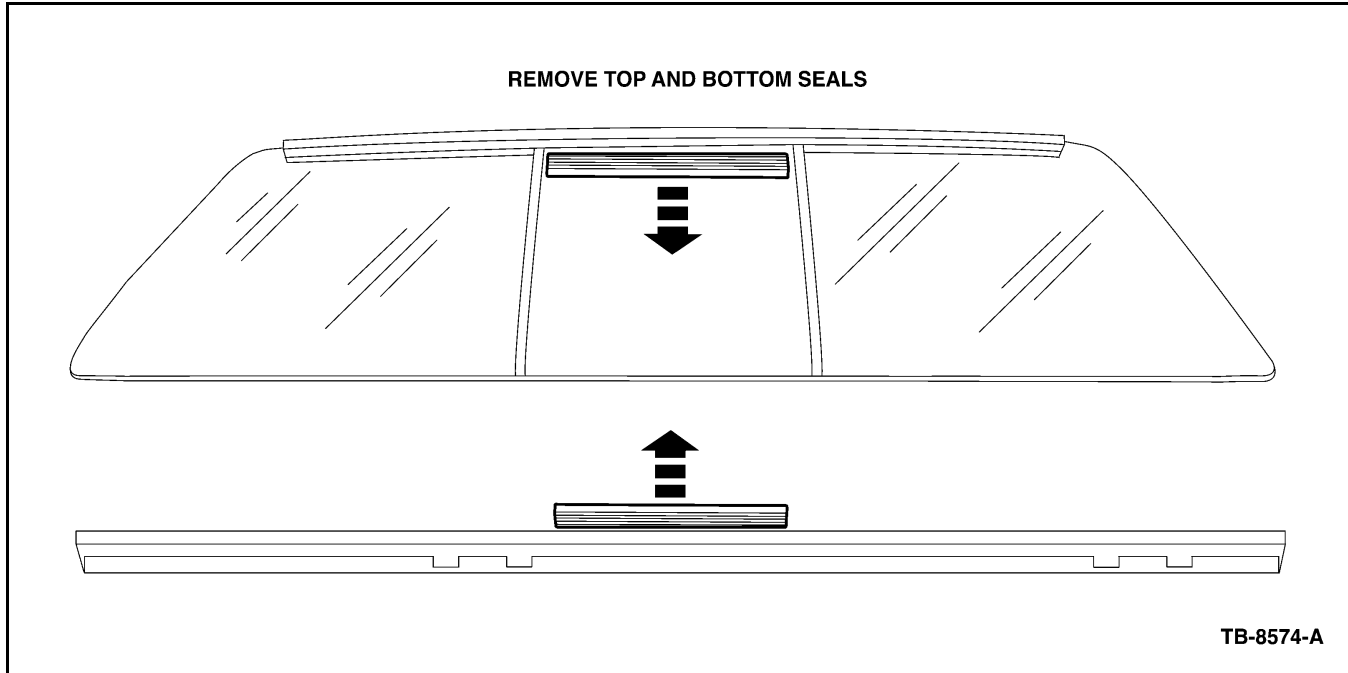
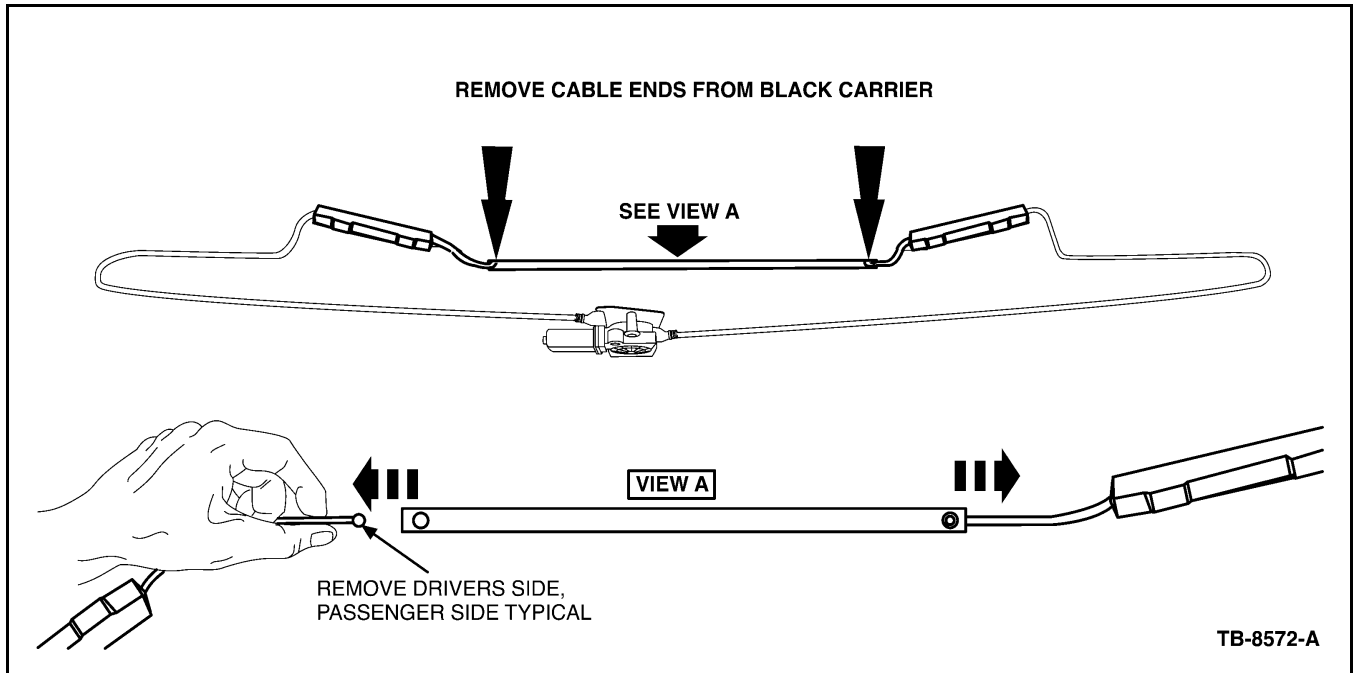

Figure 6 - Article 06-15-5
Figure 13 - Article 06-15-5
17. Remove center glass seal from window and scrape cured urethane adhesive from center glass (Figures 6 and 7).
26. Remove cable ends from black carrier using access holes in the bottom of the carrier (Figure 13).
29. Attach cable ends to new center glass by inserting into end of black carrier and pushing downwards making sure the die cast end retains cable properly (Figure 13).
35. Verify two (2) outside fixed glass panels have rubber weather-strip on the edge and push into lower channel.
39. Reinstall weather seals. (Figure 6)